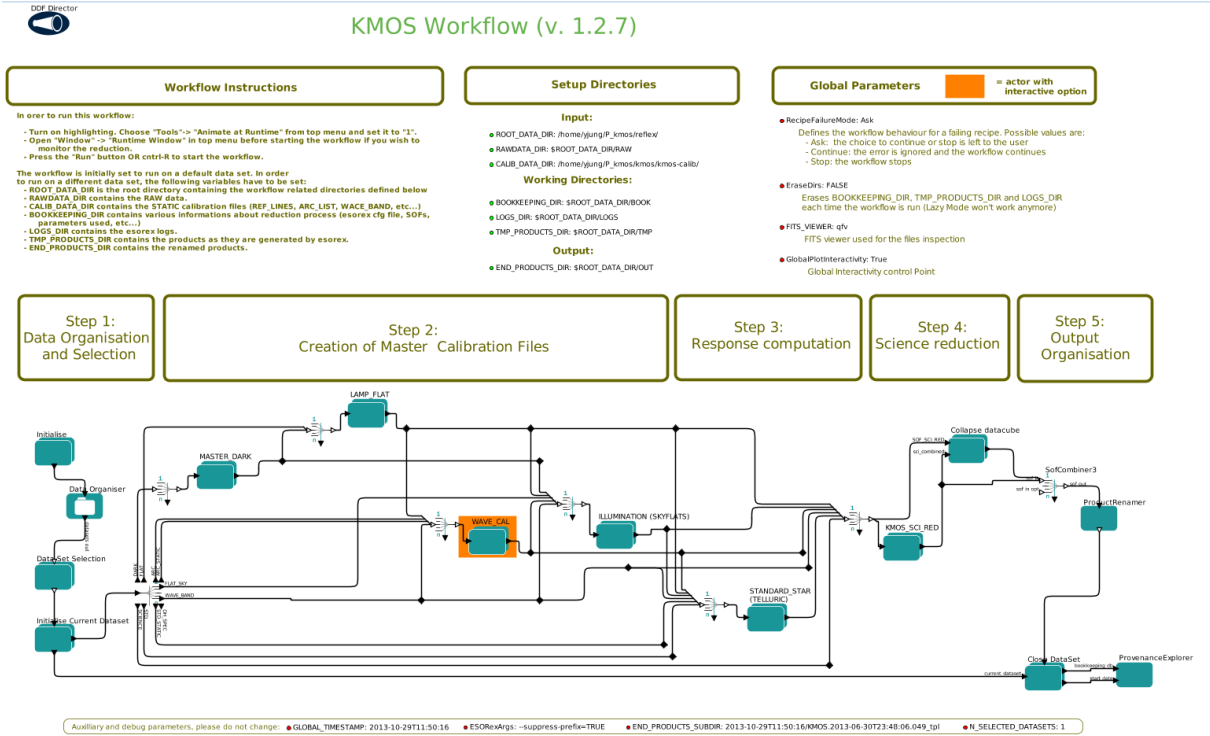

Figure 4.2: KMOS workflow general layout.
2. Now open the KMOS workflow by clicking on File -> Open File, selecting first kmos-1.2.8 and then the file kmos.xml in the file browser. You will be presented with the workflow canvas shown in Figure 4.2. Note that the workflow will appear as a canvas in a new window.